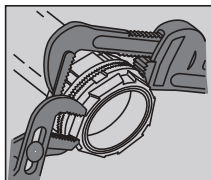

Fig. 2
- 2 Locknut Design with peripheral slots and a hexagonal/angled spline spaced every 30° enables easy application of torque with wrench or hammer and screwdriver. (See **Figures 2 & 3**)